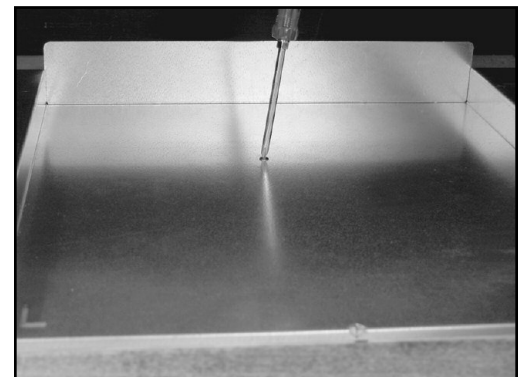

Fig. 03
5. Drill 1/8" pilot holes in the cabinet using the base as a template and install a screw through the base into the cabinet bottom to prevent the base from shifting (Fig. 03).